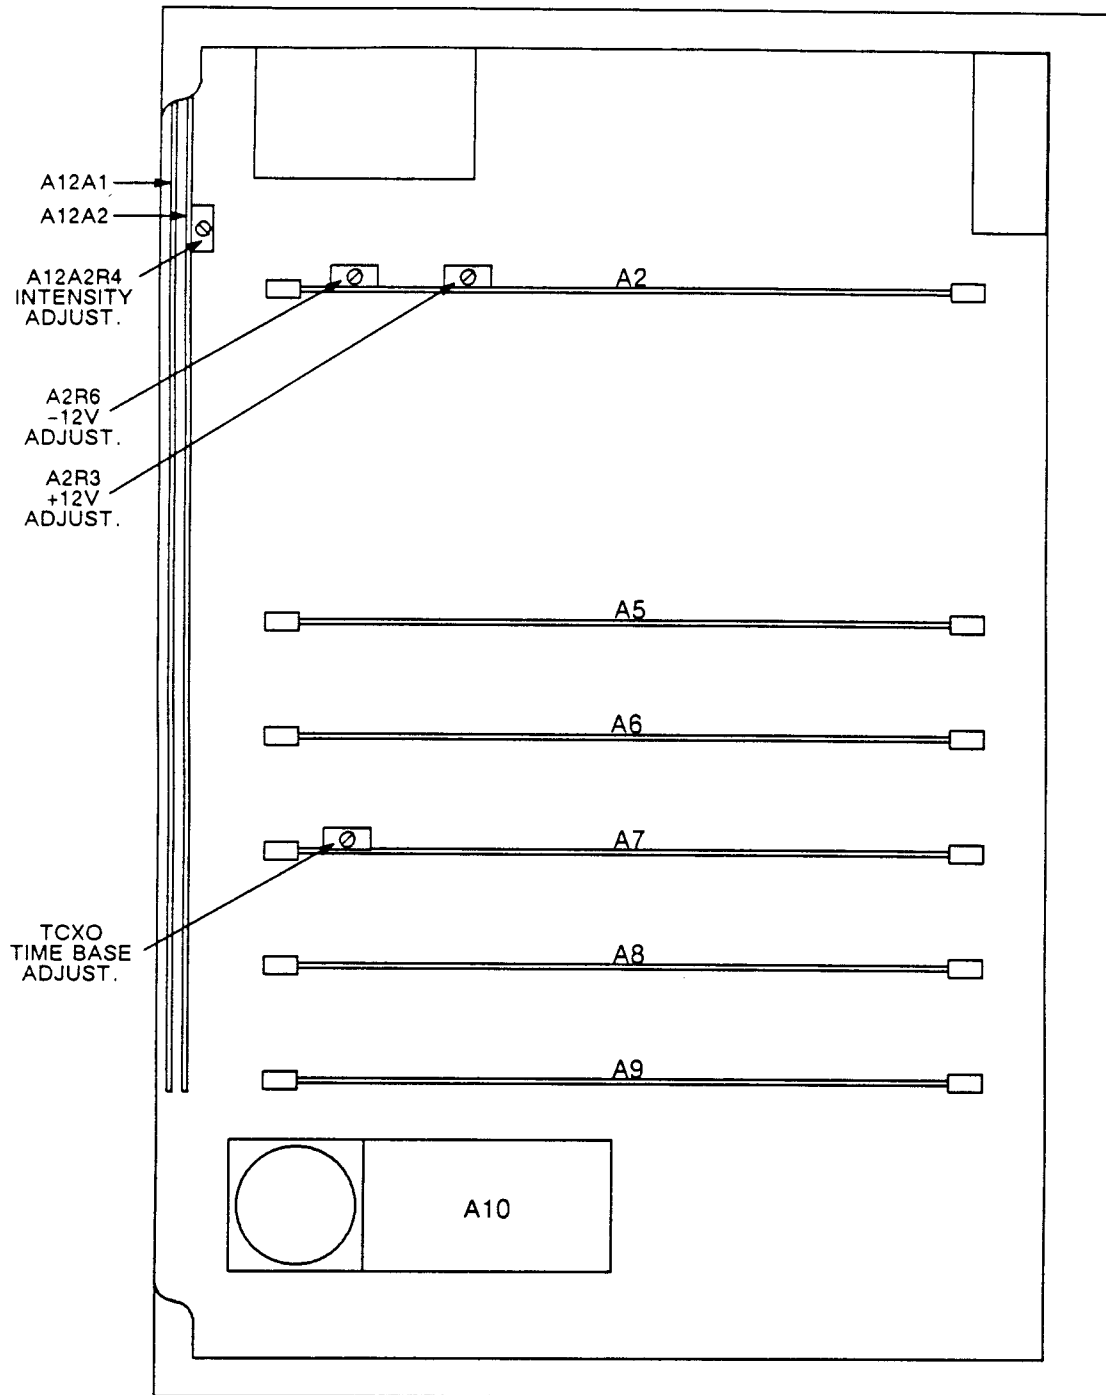

Figure 7-1. Adjustment Control Locations.
Table 7-1 describes the functions, specifications, and methods to be used when performing the adjustment and calibration routines. Figure 7-1 shows the location of the adjustment controls.
6. Set the 585B/588B TCXO frequency control (on gate generator PCB A7) to 10 MHz  $\pm$  1 Hz by turning the adjustment screw located on the top of the TCXO case (see Figure 7-1) and observe that the 545B counter displays 10 MHz  $\pm$  1 Hz.